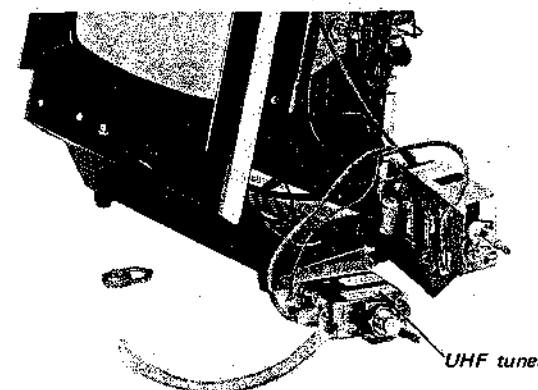

Fig. 2-18.
6. Take out the uhf tuner as shown in Fig. 2-18.